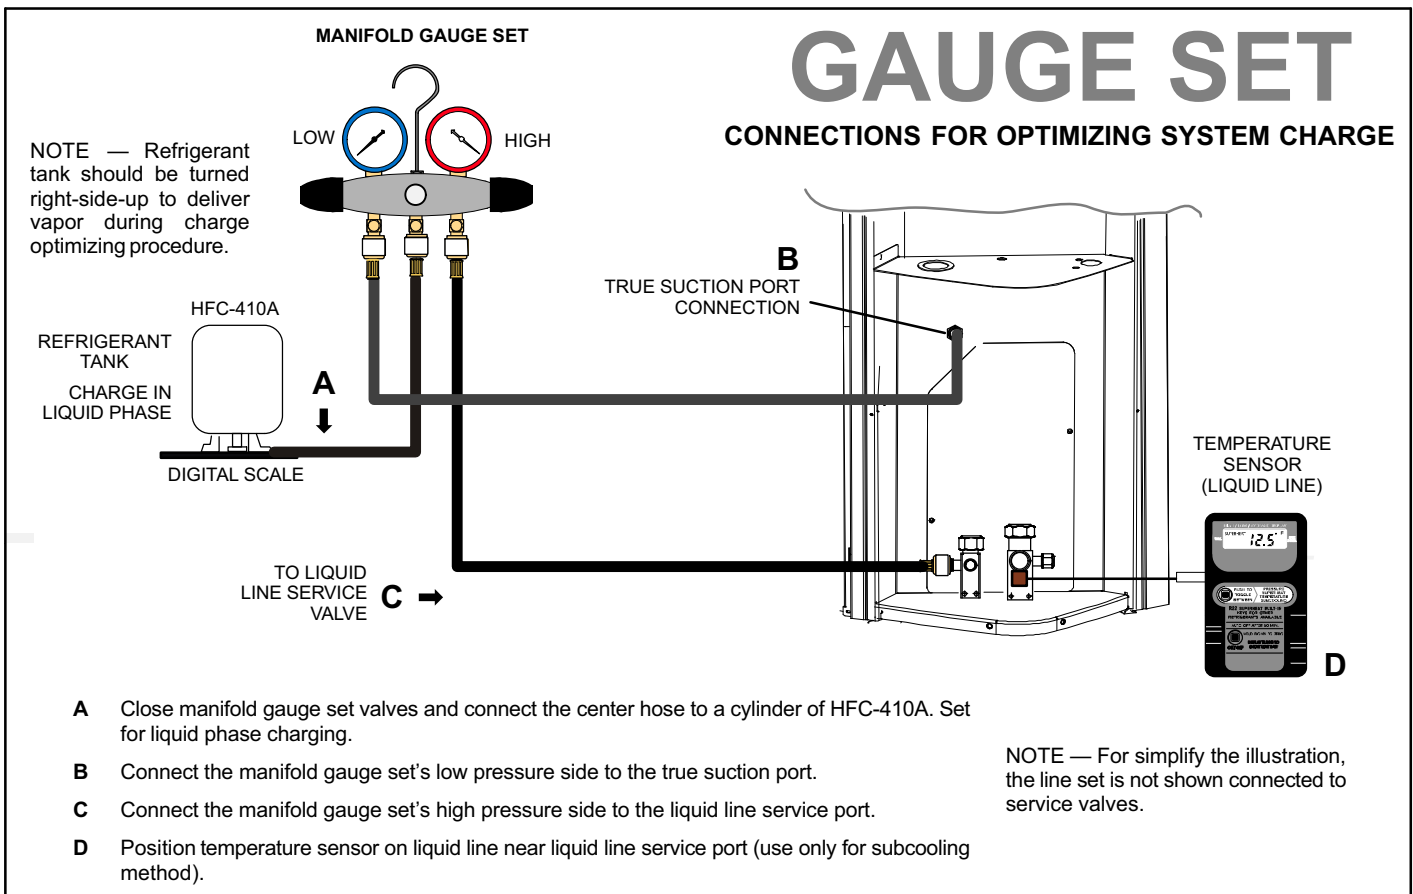

Figure 17. Typical Gauge Set Connections for Initial Weight-in Charge or Optimizing System Charge
3. Verify that the manifold gauge set is connected as illustrated in figure 17. Use a temperature sensor positioned near the liquid line service port as illustrated in figure 17 which will be required later when using the subcooling method for optimizing the system refrigerant charge.
After the evacuation procedure, reconnect the manifold gauge set as illustrated in figure 17.
NOTE - Temperature sensor illustrated in figure 17 is not required for initial system weigh in charging.
1. Close manifold gauge set valves and connect the gauge set as exemplated in figure 17.
1. Move the low-side manifold gauge hose from the vapor line service valve to the true suction port (see figure 17).